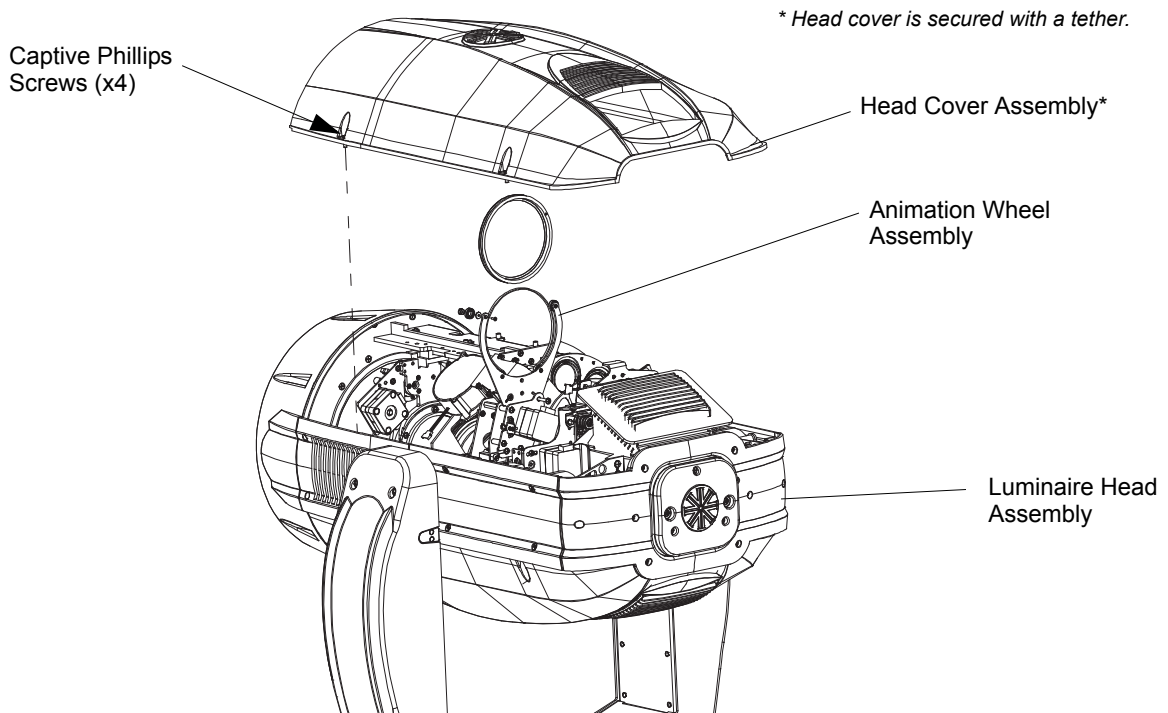

Figure 2-10: Replacing Animation Wheel
Step 3. Remove head cover assembly as indicated in Figure 2-10 by loosening four captive screws and lifting cover away from luminaire head. Note, head cover is attached by a safety tether.